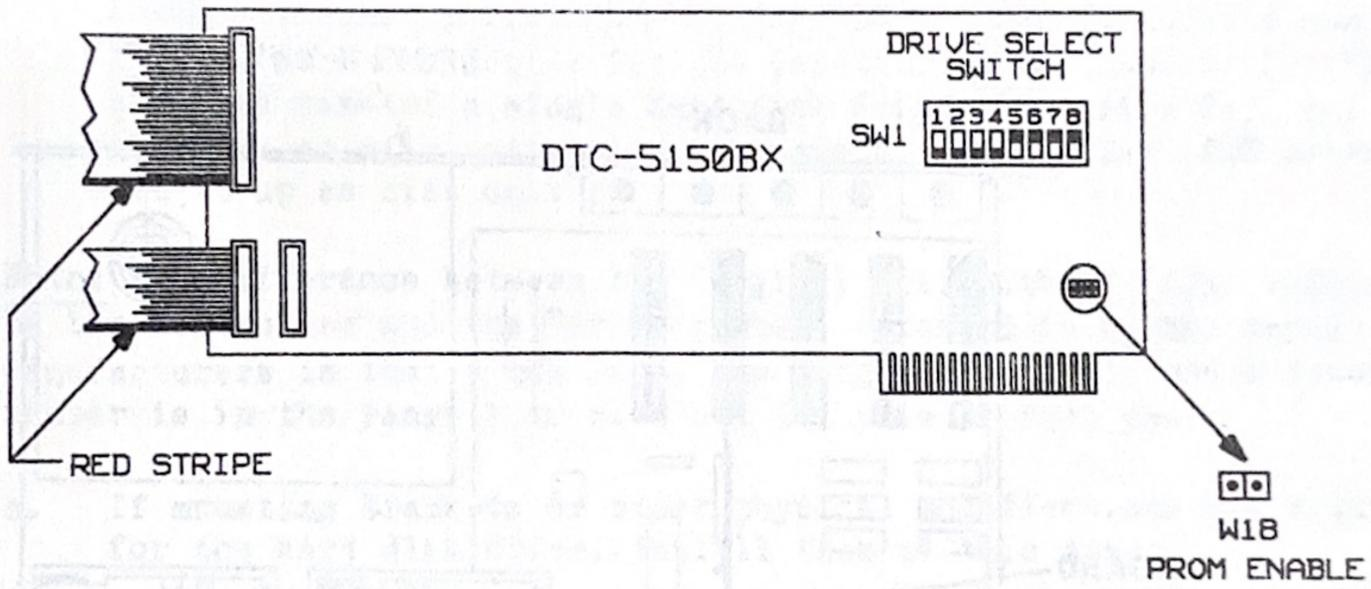

FIGURE 1. LOCATION OF JUMPERS AND SWITCHES ON DTC-5150BX
- b. Plug the 34-pin (J1) cable in the 34-pin connector on the DTC-5150BX. If you are connecting two hard disks, use a daisy-chain cable which has connectors for two drives. The red stripe on all cables should be toward the bottom of the connector, corresponding to pin number one on the controller (See Figure 1). The cable extends in the direction of the end of the board.
- d. Check for PROM Enable Jumper W18 (See Figure 1) installed.
- e. Refer to Appendices A and B to see how to set the drive select switches (8-position switch SW1, see Figure 1). These switches must be set according to the characteristics of the drive(s) you will attach.